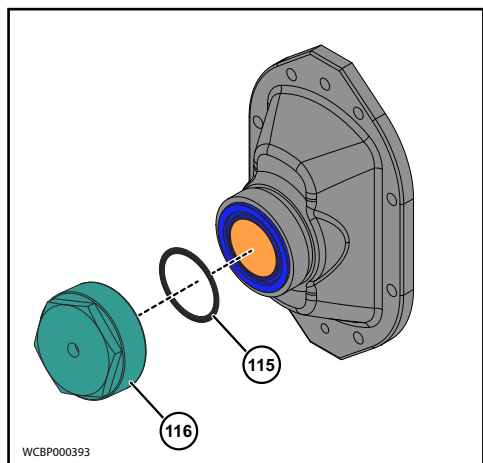

Figure 104 - Install Cover Nut
3. Install the O-ring (115) into the Cover Nut (116). Then Apply the anti-seize on the cover port threads and tighten the Cover Nut (116) onto the Cover port, as shown in Figure 104.